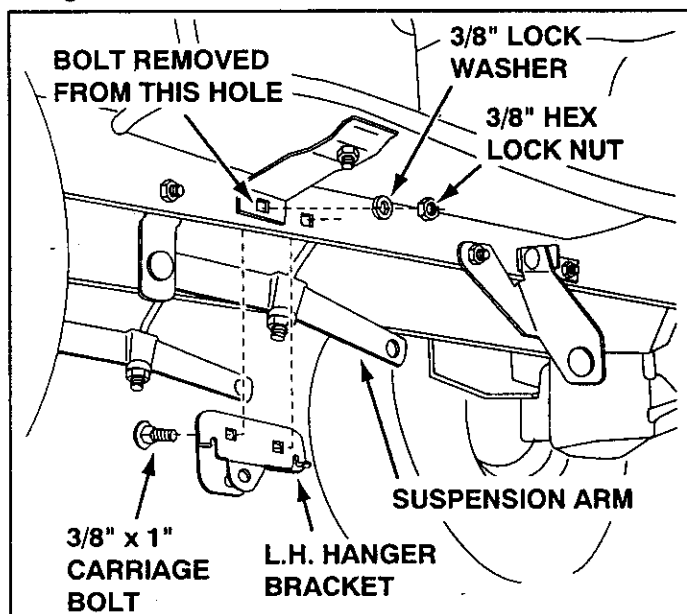

FIGURE 4
**INSTRUCTIONS FOR TRACTORS WITH FOOT REST BRACKETS UNDER THE FOOT RESTS (Figure 4.)**
- Remove and discard the bolt and nut from the L.H. foot rest bracket and the side of the tractor frame as shown in figure 4. Repeat for the R.H. bracket. **HINT:** If the tractor's suspension arms are in the way, lower them using the attachment lift lever.
- Using the now empty hole and the hole beside it, attach the L.H. Hanger Bracket (marked "L") to the inside of the tractor frame. Use two 3/8" x 1" carriage bolts, 3/8" lock washers and 3/8" hex lock nuts, making sure the bolt heads are on the inside of the tractor frame. Repeat for the R.H. side. See figure 4.